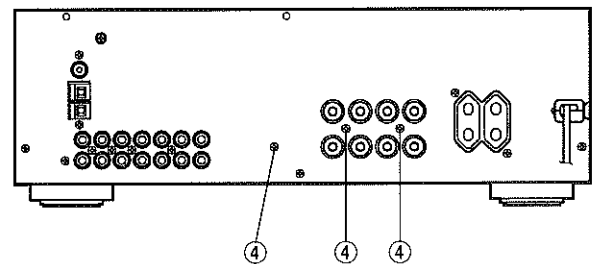

Fig. 2
3. Checking and Parts Replacement of P.C.B. MAIN (1)
b. Remove 3 screws (④) fixing the Speaker terminal and Heat Sink in Fig. 2.